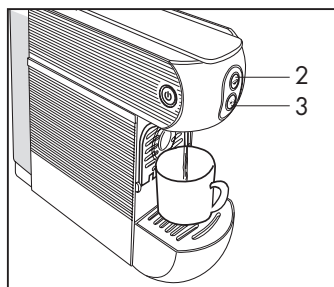

Fig. 6
- When the dispensing buttons (2-3) appear with a fixed light the machine is ready for use. Press the dispensing button (2), the machine dispenses water **(Fig. 6)**; press the dispensing button (2) again when it reaches the desired amount of water. The rinsing operation is ended when at least three cups of water have been dispensed.